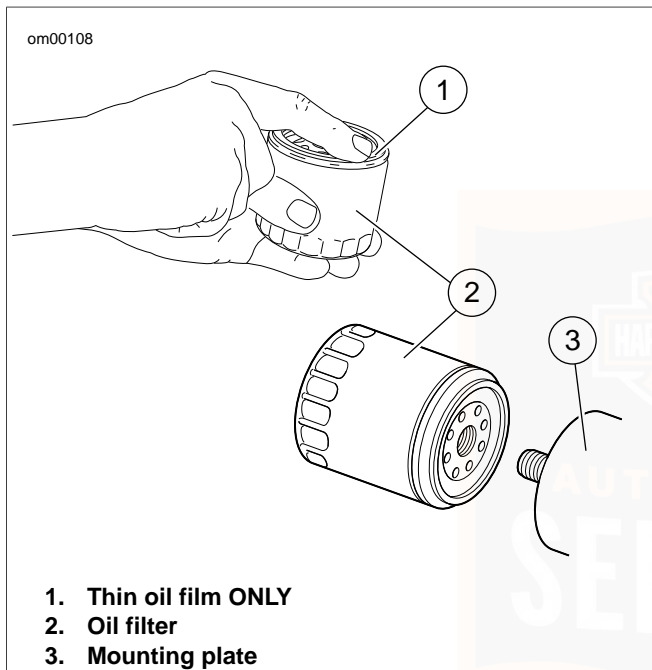

Figure 26. Applying Thin Oil Film
5. See Figure 26. Lube the gasket on **new** oil filter with engine oil and install new filter. Hand tighten oil filter 1/2-3/4 turn after gasket contacts filter mounting surface.